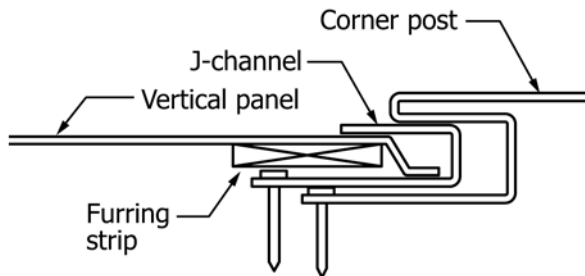

FIG. 28 Corner Installation with Panel Cut in V-Groove
10.13.1 If panel is cut in the bottom of the V-groove, insert into the J-channel. Install a furring strip prior to panel insertion. This will prevent the panel from detaching. (See Fig. 28.)